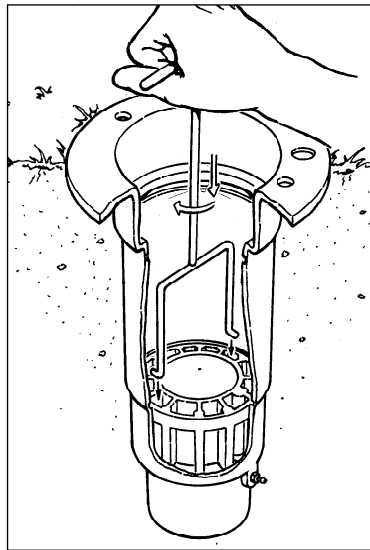

Figure 3
2. Use valve removal tool (P/N 995-09) to remove valve assembly from base of sprinkler body. Valve Removal Tool is inserted into sprinkler body and pushed through valve ribs to the underside of valve. A slight twist will lock tool to valve enabling removal by pulling straight up and out. (See **Figure 3**.)